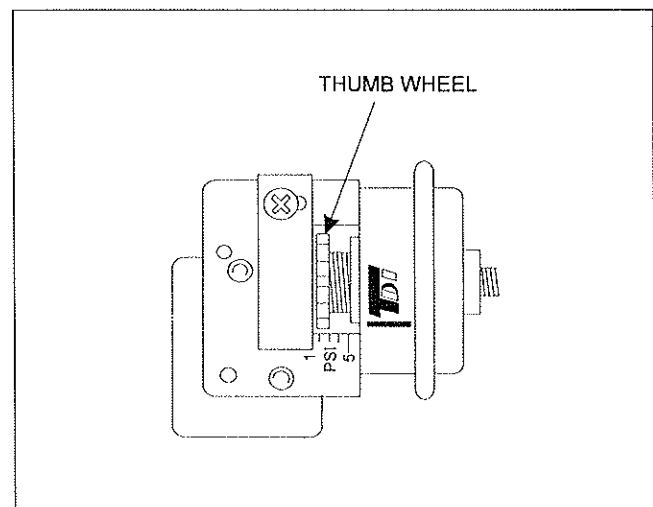

Figure 4. Pressure Switch Adjustment
3. Set the pressure switch to its lowest setting by turning the thumbwheel **clockwise** as far as it will go away from the body of the pressure switch (see Fig. 4).